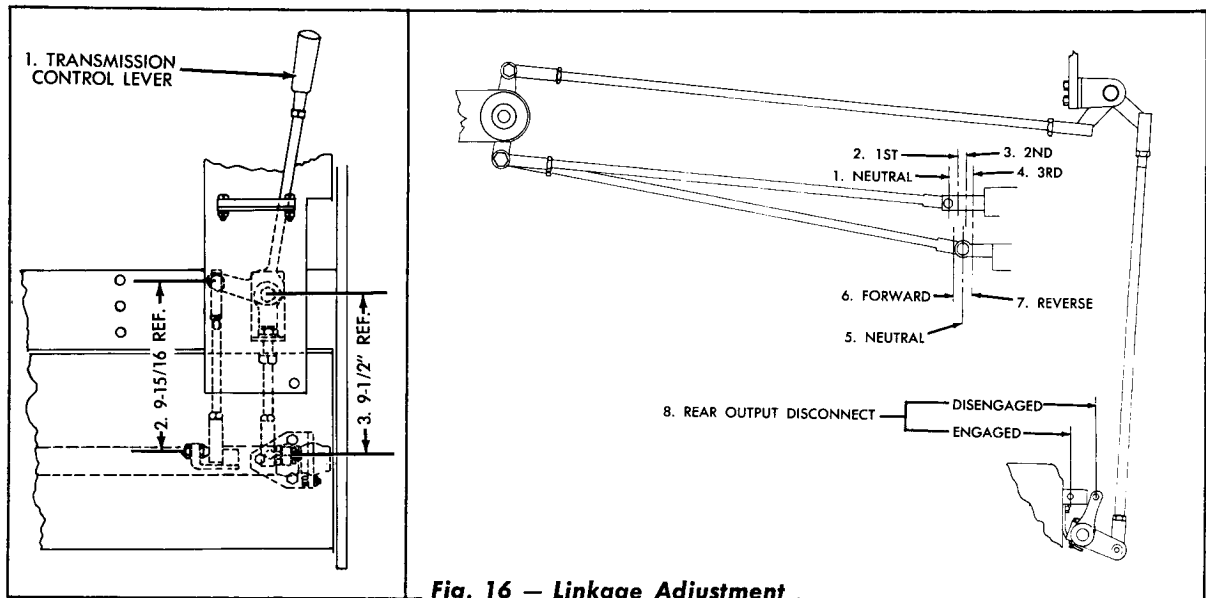

Fig. 16 — Linkage Adjustment
- b. Check the hydraulic system oil level at the transmission oil level plug, located on the left side of the transfer gear housing assembly (Fig. 1 and Fig. 16). With the oil level plug removed, oil in the transmission sump should be level with or should flow from the oil level hole. If the oil does not run out from the hole, add oil until the oil runs out freely.
The two rods connecting the transmission shift lever with the shaft may be adjusted by loosening their jam nuts and turning the joint clockwise to decrease the rod length, or counterclockwise to increase it. After the transmission shift lever is installed, it should be centered, and should travel freely through the gated slot in the transmission control plate. Then, adjust the rods using the dimensions in Fig. 16 as a reference.
The axle disconnect lever should travel far enough to engage, or disengage, the axle disconnect plunger without striking its guide plate. Then adjust the rods (Fig. 16).